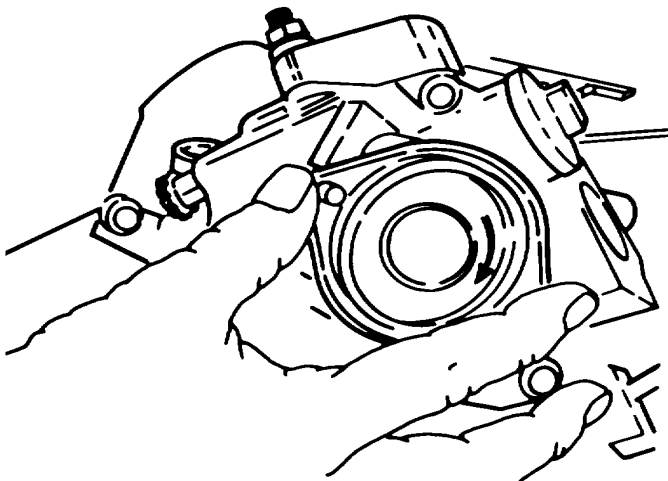

Figure A-41. Replacing Oil Seal and Crank Handle Guide
- (2) Finally, replace the oil seal and crank handle guide. Do not push the guide straight onto the gear cover. Instead, while holding the camshaft gear with one hand, use a light twisting motion until the guide seats itself. Tighten the two guide screws with a 6mm allen head wrench. (Figure A-41.)